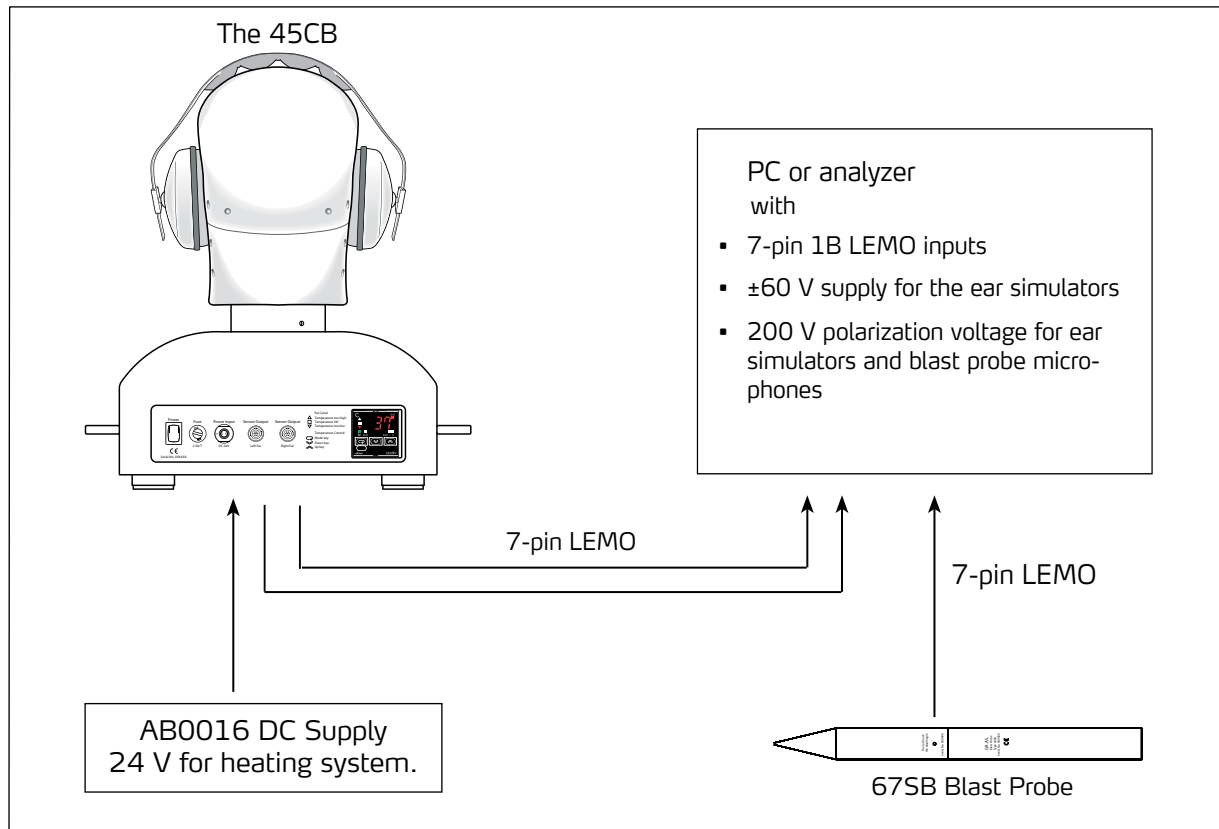
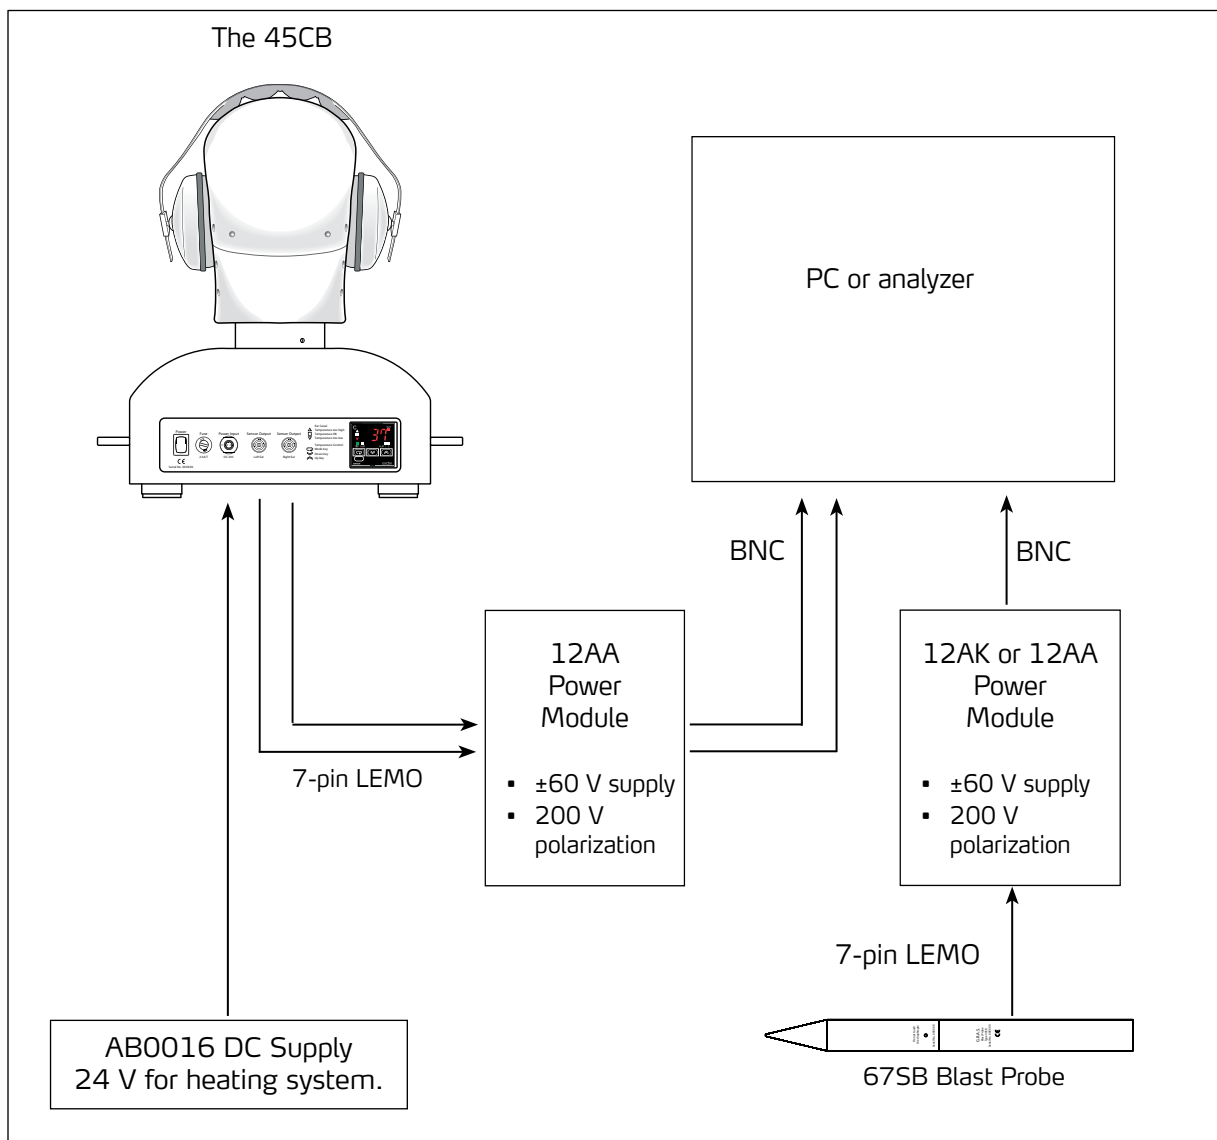

Fig. 3. The 45CB connected to an analyzer that provides signal conditioning.
Fig. 4. The 45CB connected to analyzer via separate power modules providing signal conditioning.
The 45CB is pre-assembled and calibrated from the factory. To set up the 45CB for measurements, you must mount the pinnae, provide power for the heating elements, and power and polarization voltage for the ear simulators and the reference microphone. Fig. 3 and Fig. 4 show setups for impulse measurements using the 67SB Blast Probe According to ANSI 12.42 as the reference microphone. The two channels of the 45CB and the blast probe must be connected to a signal analyzer or a PC capable of signal analysis.
Fig. 3 shows a typical setup with an analyzer that provides signal conditioning. Power supply and polarization voltages are taken from the analyzer. To obtain the full available dynamic headroom, a supply voltage of ± 60 V for the ear simulators is necessary. If a 120 V single-ended supply is used, the input to the analyzer must be AC-coupled. The power for the heating system can be provided by the included mains adapter. For use in the field, you can use truck or car batteries. While the 45CB warms up (approximately 30 minutes), the power consumption is 2.5 A.
Fig. 4 shows a typical setup with separate power modules. Power supply and polarization voltages are provided by separate power modules. We recommend the 12AA Power Module because it provides overload indication and gain settings. To obtain the full available dynamic headroom, a supply voltage of ± 60 V for the ear simulators is necessary. Alternatively, if a 120 V single-ended supply is used, the input of the analyzer must be AC-coupled.
To attach the pinna to the head core fixture, you must align the pinna correctly and press it onto the 12 studs shown in Fig. 4.
2. Make sure that the engraved arrow on the pinna points upwards (Fig. 4).